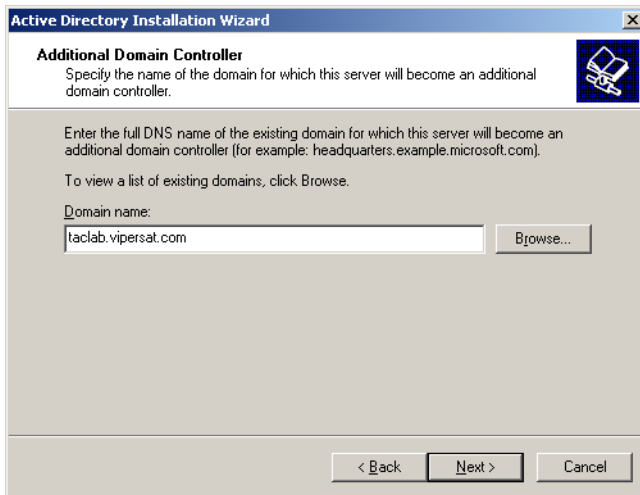

Figure D-33 Additional domain controller with domain name.
16. The Additional Domain Controller screen shown in figure D-33 will be displayed the selected domain displayed. Click the **Next** button to continue.